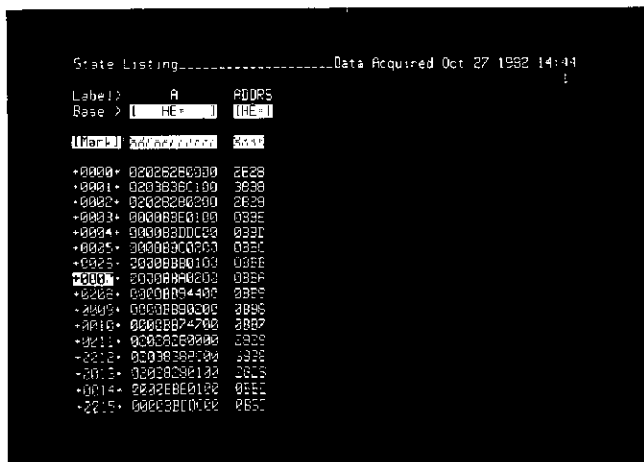

Figure 3-5. Labeling Address Bits In Trace List
10. Press the LIST key. See figure 3-5. The information collected from the sixteen channels of pod 3 and pod 2 (connected to the address bus in your system) is shown under a separate label called ADDR5. Is this the address space you expected to see executed by the system under test? If not, check your probe connections and check the clock polarity in the format specification